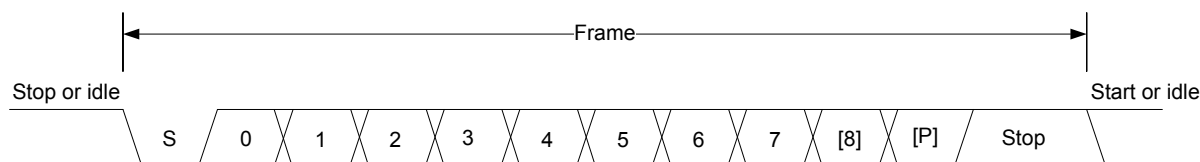

Figure 18.2. LEUART Asynchronous Frame Format
The frame format used by the LEUART consists of a set of data bits in addition to bits for synchronization and optionally a parity bit for error checking. A frame starts with one start-bit (S), where the line is driven low for one bit-period. This signals the start of a frame, and is used for synchronization. Following the start bit are 8 or 9 data bits and an optional parity bit. The data is transmitted with the least significant bit first. Finally, a number of stop-bits, where the line is driven high, end the frame. The frame format is shown in Figure 18.2 LEUART Asynchronous Frame Format on page 631.